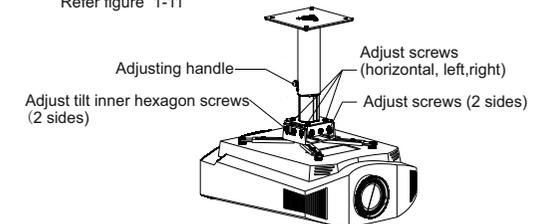

Figure 1-11
Step 4-4: debugging the projector: height adjustment: loosen the adjusting handle screw, adjust the screw up and down by hand, and then tighten the screw; debugging the projector inclination angle: first loosen the screws on both sides with a hexagon wrench, turn the octopus assembly by hand to make the projector obtain the required inclination angle, tighten 1-2 screws to prevent angle deviation, and then tighten the remaining screws after confirming the angle. Refer figure 1-11